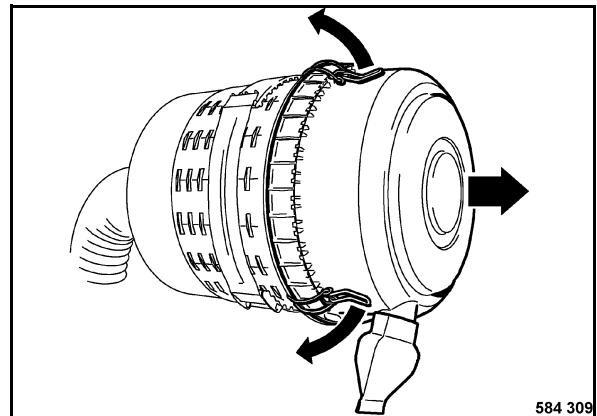

Fig. 184
- Loosen both locking hooks (Fig. 184) on the housing cover and take the cover off.